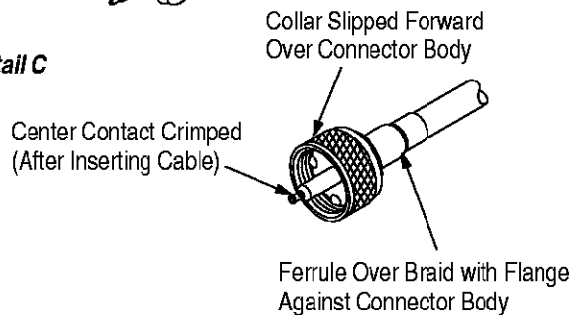

Figure 2
1. Slide ferrule over cable, followed by collar. See Figure 2, Detail A.
The end of the center conductor will extend from the end of the contact for inspection purposes on certain cable groups. See Figure 2, Detail B. After crimp is finished, center conductor should be trimmed flush with the end of the contact.
6. Slide ferrule over braid, butting flange against connector body as shown in Figure 2, Detail C.